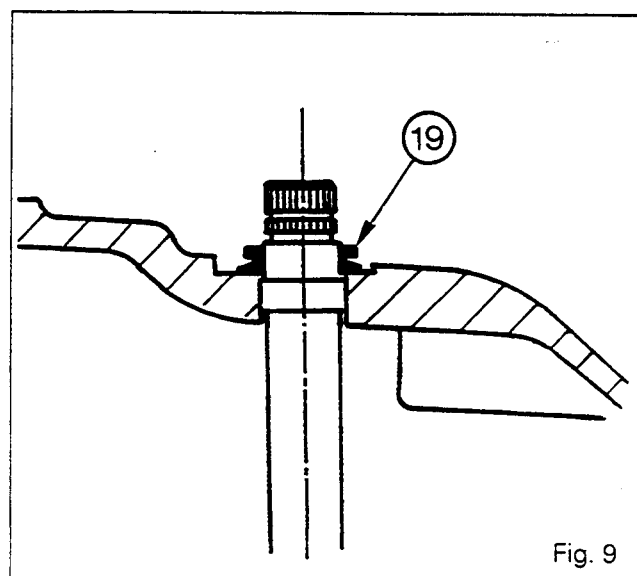

Fig. 9
47. Fit the seal (19) supported by the housing (Fig. 9).